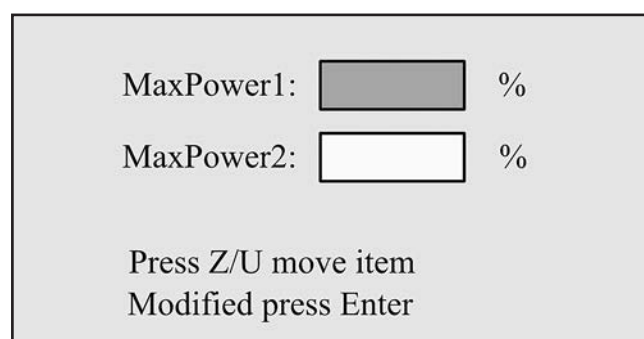

Figure 104. Example of "Max-Power" screen.
3. Loosen (4) cap screws and remove (1) right laser tube cover to access primary Mirror #1.
5. Press Max-Power button. Max-Power setting screen will open (see **Figure 104**).